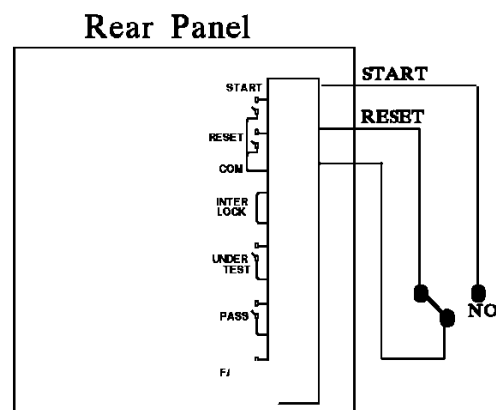

Figure 4-2
2. If it is connected as *Figure 4-2* shows, the system routine is in a STOP state as the NC is connected to STOP and NO is connected to START.